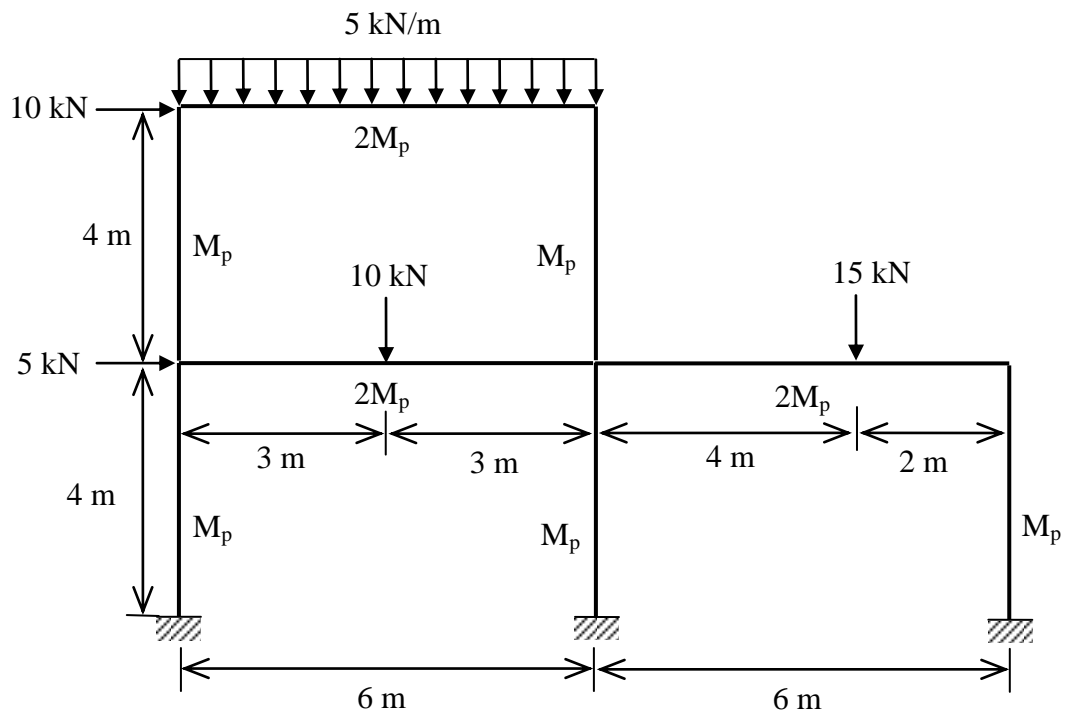

**Figure 3/Rajah 3**
3. (a) Determine the horizontal displacement at point D for the truss shown in **Figure 3**. The cross-sectional area of each member is given in parentheses ( $\text{mm}^2$ ) and the modulus of elasticity is 200 GPa. Use virtual work method.